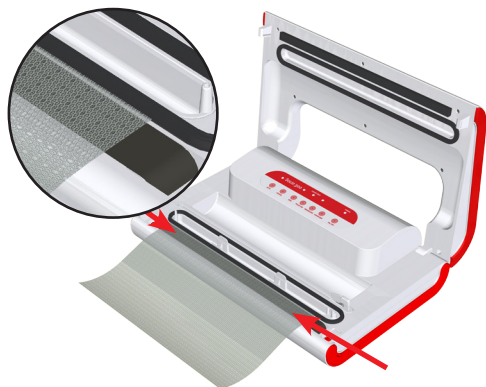

Figure 4: When sealing, position the bag over the Sealing Strip all the way to the gasket.
- Place the foil over the sealing strip aligning it with the gasket (see detailed Figure 4).